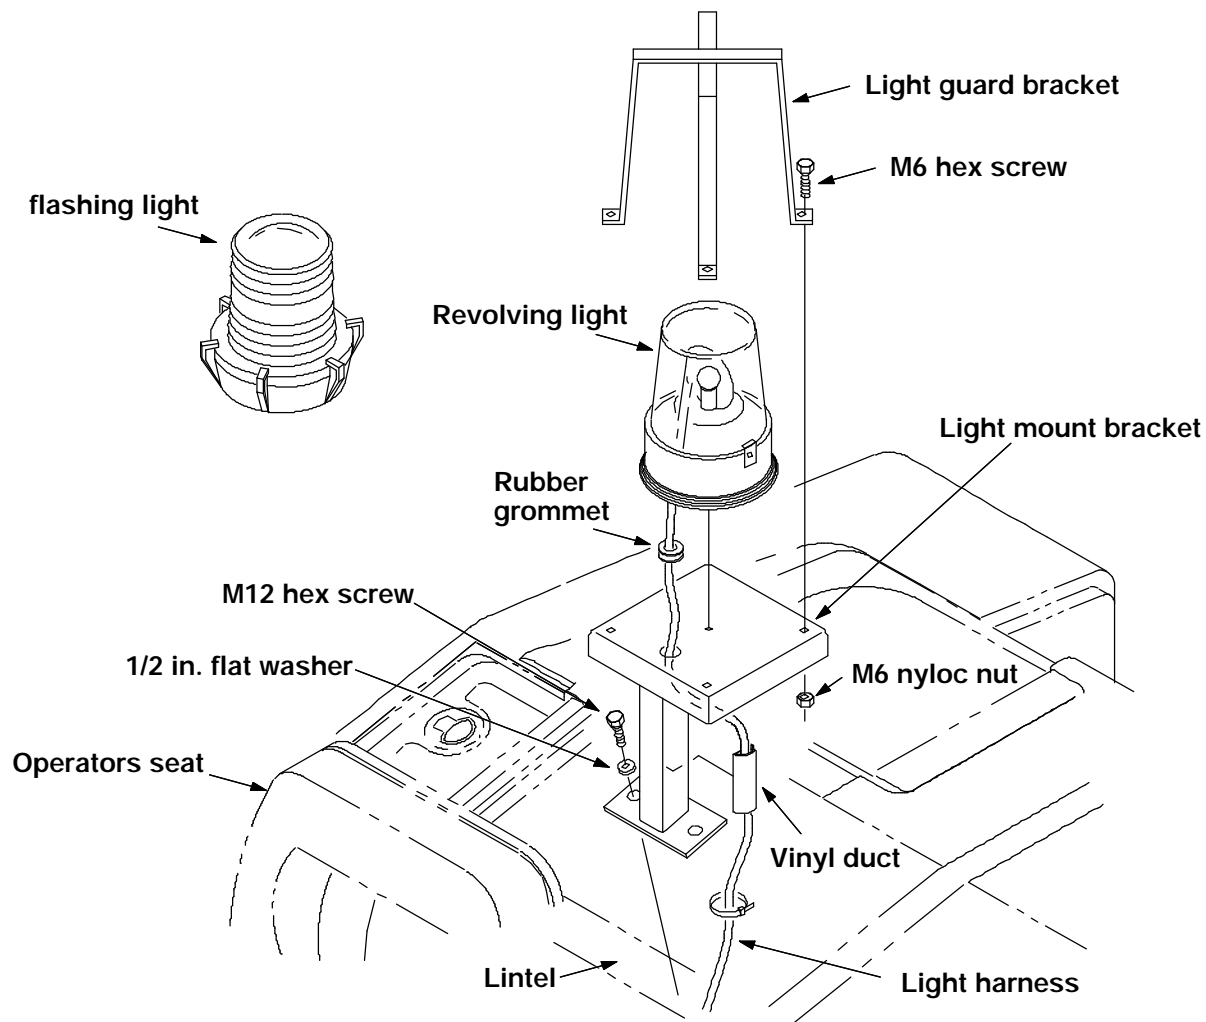

FIG. 2 - Lintel Mounted Rev/flashing Light Assembly
(Refer to FIG. 2 and 3)
(Refer to FIG. 2)
3. Install the snap plug terminal (55272) on the positive wire on the light (82199 rev or 82198 flashing). (Refer to FIG. 2 and 3)
5. Run the wires through the grommet. (Refer to FIG. 2 and 3)
6. Connect the wires from the light to the light harness (60288). (Refer to FIG. 2 and 3)
7. Remove the nut from the threaded stud on the bottom of the light. (Refer to FIG. 2)
8. Place the light on top of the mount bracket (71645). (Refer to FIG. 2)
9. Position the threaded stud of the light through the small hole in the center of the mount bracket (71645). (Refer to FIG. 2)
- Ignition and Charging:** The main line goes to the BATT. terminal (30) of the IGNITION SWITCH (S-3). The switch also controls the 50 terminal, which is connected to the 17 terminal, and the 19 terminal, which is connected to the ACC terminal. The 20/BLU wire (CB-1) is connected to the 15A terminal.